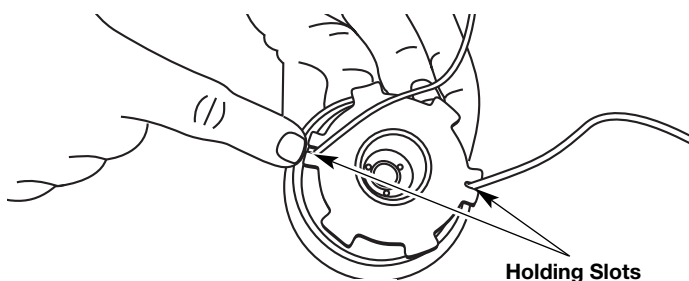

Fig. 37
12. Insert the ends of the line into the two holding slots (Fig. 37).